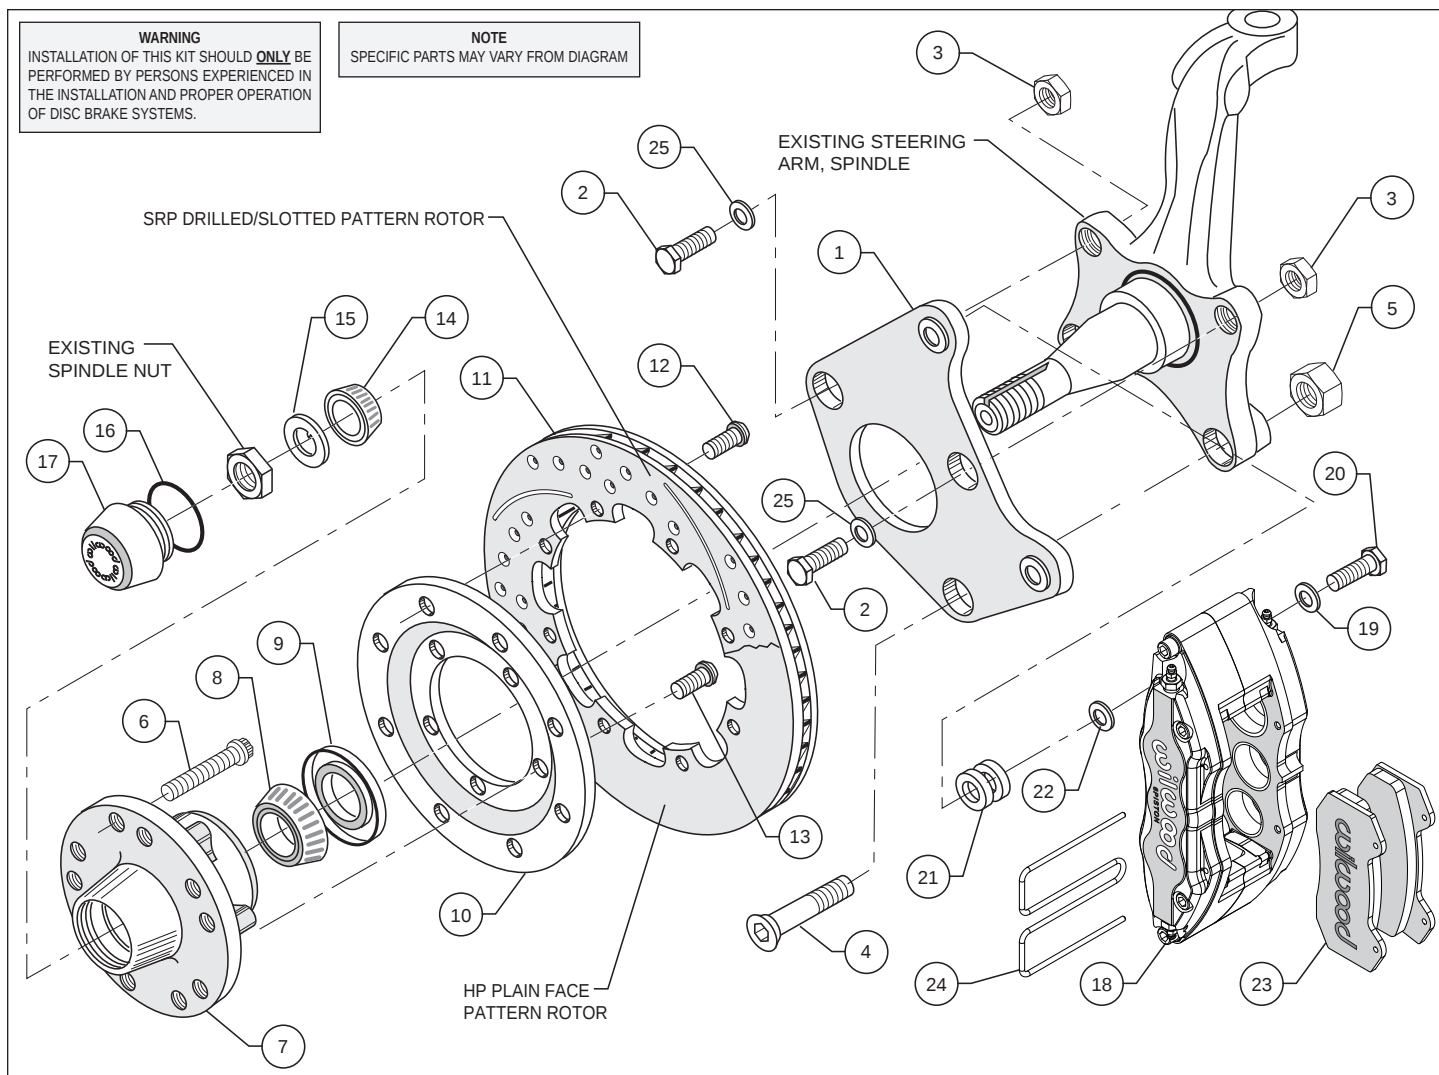

Figure 1. Typical Installation Configuration
- Apply red *Loctite*® 271 to bolt threads (2 and 4) before assembly of the caliper bracket (1) to backing plate face of spindle. Then install bolt (4) through caliper bracket (1), spindle face and the steering arm. Finger tighten the bolt (4) with lock nut (5). Install and finger tighten two bolts (2) with lock nuts (3). Torque two bolts (2) to 47 ft-lb. Torque bolt (4) to 140 ft-lb. **NOTE:** Be sure the heads of the caliper bracket (1) insert nuts are facing outward toward the wheel.
- Install five new wheel studs (6) into the hub (7). Torque to 77 ft-lb. **NOTE:** There are two five lug patterns in the hub (5 x 4.00 and 5 x 4.50). Make sure of the correct hole pattern for the correct wheel application before installing studs into hub.
- Pack the large inner bearing cone (8) with high temperature disc brake bearing grease (available from your local auto parts store) and install into the backside of the hub (7).
- Install the grease seal (9) by pressing into the backside of the hub (7).
- Orient the rotor (11) and the rotor adapter (10) as shown in Figure 1. Attach the rotor to the adapter using bolts (12). Using an alternating sequence, apply red *Loctite*® 271 to the threads, and torque to 25 ft-lb.
- Mount the adapter/rotor assembly (10/11) to the hub (7) using bolts (13), as shown in Figure 1. Using an alternating sequence, apply red *Loctite*® 271 to the threads, and torque to 55 ft-lb.
- Pack the small outer bearing cone (14) with high temperature disc brake bearing grease. Lightly coat the spindle bearing surfaces with bearing grease. Slide the hub/rotor assembly (7 and 11) with outer bearing cone (14) onto the spindle. Secure using spindle washer (15), existing adjusting nut and nut locking device.